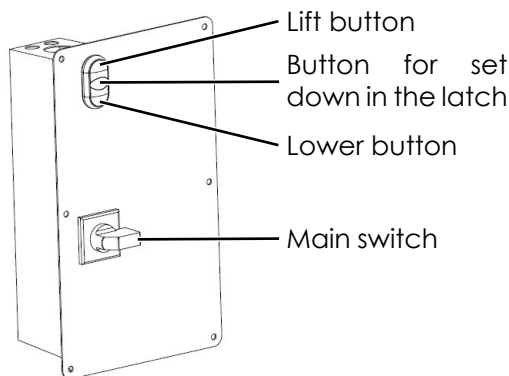

Figure 4: Operating unit
- Lift the vehicle until the wheels are off the ground. Push the lift button → "Lift" (see Figure 4)